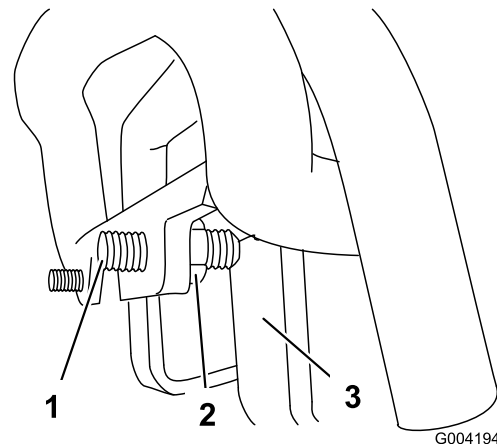

Figure 61
3. If the traction unit veers to the **left**, loosen the **right** jam nut and adjust the tracking set screw on the front of the traction control (**Figure 61**).
4. If the traction unit veers to the **right**, loosen the **left** jam nut and adjust the tracking set screw on the front of the traction control (**Figure 61**).